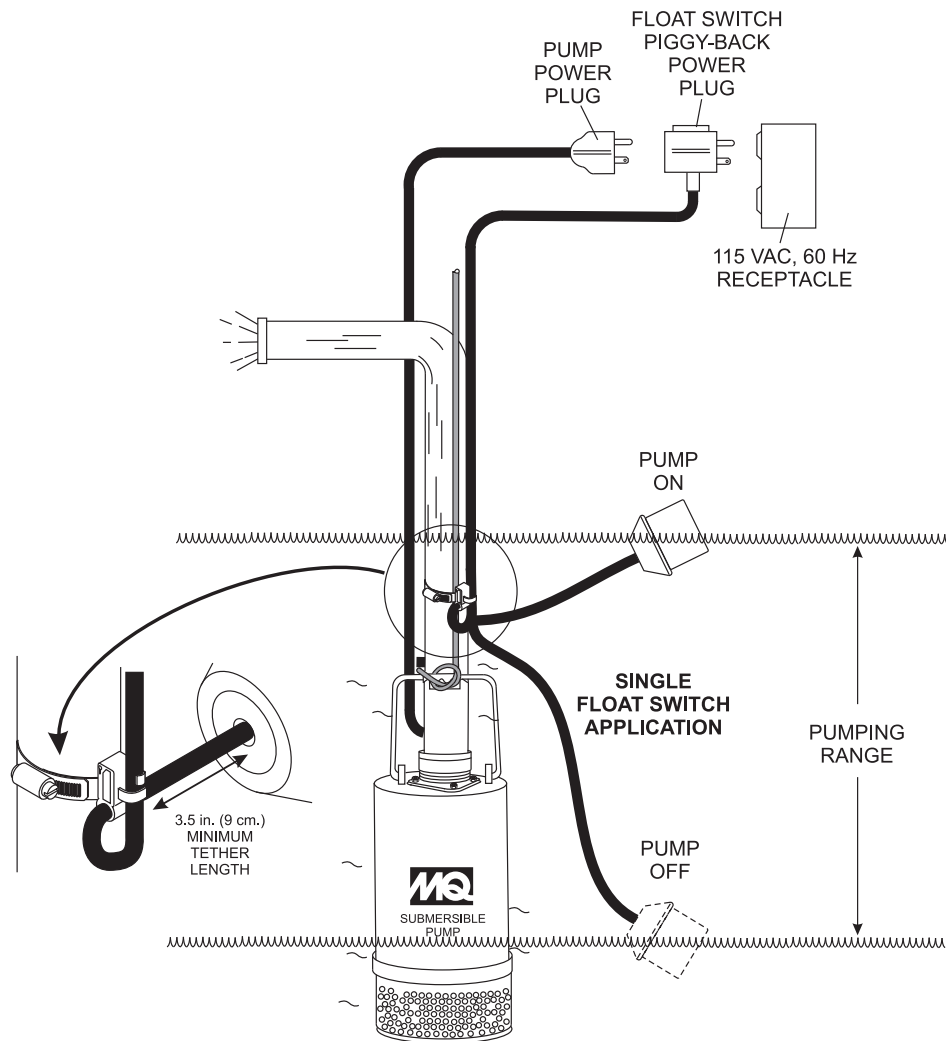

Figure 6. Single Float Switch Application Diagram
Single or **dual** control float switches (Figure 6) can be used for the unattended operation of the submersible pump. When using the **piggy-back power configuration** (plug), the pumps **DO NOT** require the use of a control box. In this configuration (piggy-back), the SW-1 (single float switch) or SW-2 (dual float switch) are required. The illustration below is an example of a single float switch application.
1. Determine the required **cord tether length** as shown in Figure 6 and Table 3.
2. Place the cord into the clamp as shown in Figure 6.
Figure 6 shows a **single float** switch application. For dual float switch capability use a **Model SW-2** mercury type float switch .
2. Connect the float switch or switches to the AC power receptacle as shown in Figure 6.
1. Remove the float switch input connector housing, then route the float switch wires through the cable gland on the control box. Attach the wires of the float switch to the terminal block as indicated by Table 5. and Figure 6.